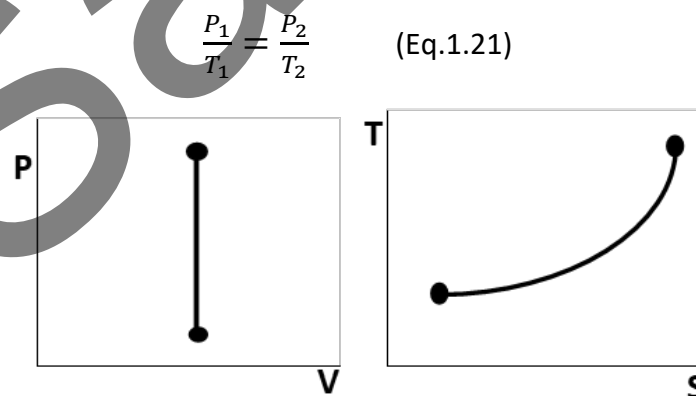

Fig.1.7: Isochoric on a  $P - V$  diagram (left) and  $T - s$  diagram (right).
**Isochoric:** The general gas law simplifies to Eq.1.21. Fig 1.7 shows isochoric actions on both the  $P - V$  and  $T - s$  diagram. ( $n = \infty$ )